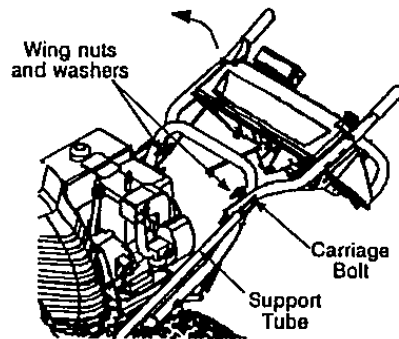

FIGURE 3
- Raise the upper handle assembly until it locks over the lower handle. See Figure 3.